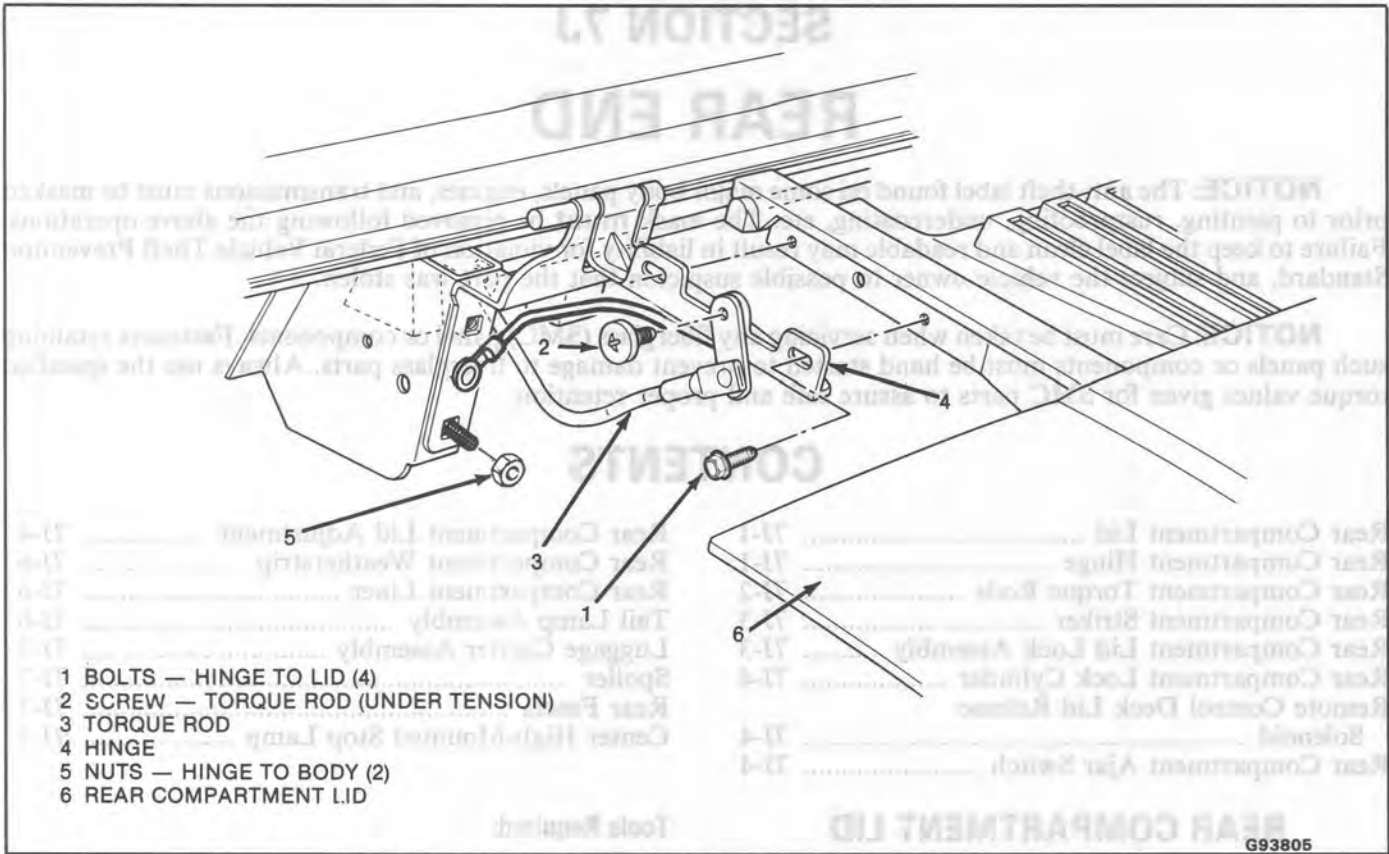
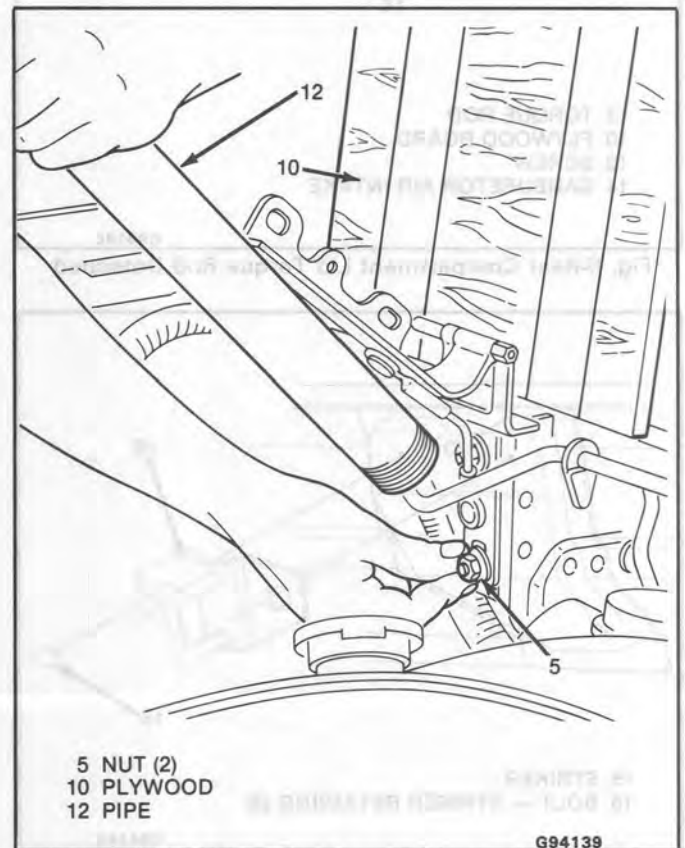

Fig. 1-Rear Compartment Lid Attachment
Fig. 5-Installing Rear Compartment Lid Hinge
#### ↔ Remove or Disconnect (Figure 1)
#### ↔ Install or Connect (Figure 1)
4. Screw (2, Fig. 1) using tool J-35808 or equivalent
5. Nuts (5, Fig. 1)
- Place pipe over end of torque rod (Fig. 5)
- Remove top nut (Fig. 5)
- Hold tension on rod with pipe (Fig. 5) while removing wood block and lower nut.
6. Hinge (4) - allow torque rod to rotate forward and rest against plywood.
1. Hinge (4) - place pipe over rod and hold tension on rod (Fig. 5) while installing hinge.
2. Nuts (5)